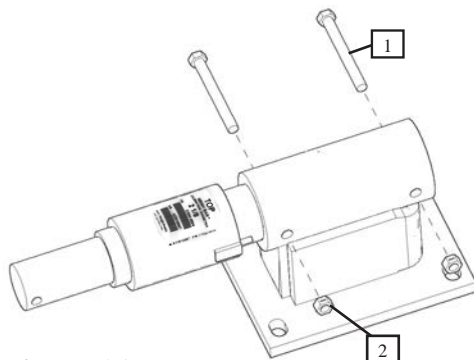

Figure 6.1
1. Slide the weigh bar into the scale mount. Making sure that the Weigh bar sticker is facing up (Figure 6.1).
2. Insert two 3/8"-16 x 3-1/2" Grade 5 Zinc Hex Bolt (#1) into scale mount and tighten using 3/8"-16 Centerlock Hex Nut (#2) (Figure 6.1).